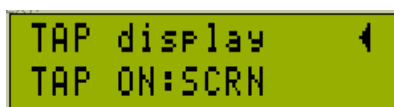

Fig. 16
Internal generated tap-tempo is not accompanied by LED flashing; no additional information is shown on the display as well. But TB-12(5) can display tempo from income SysEx MIDI messages if data format known. Fractal Audio AxeFx (standard, ultra, II, II XL) devices and Kemper Profiler Amplifier messages are currently supported. You can choose TAP indication in **Tap display** menu(see Fig. 16).